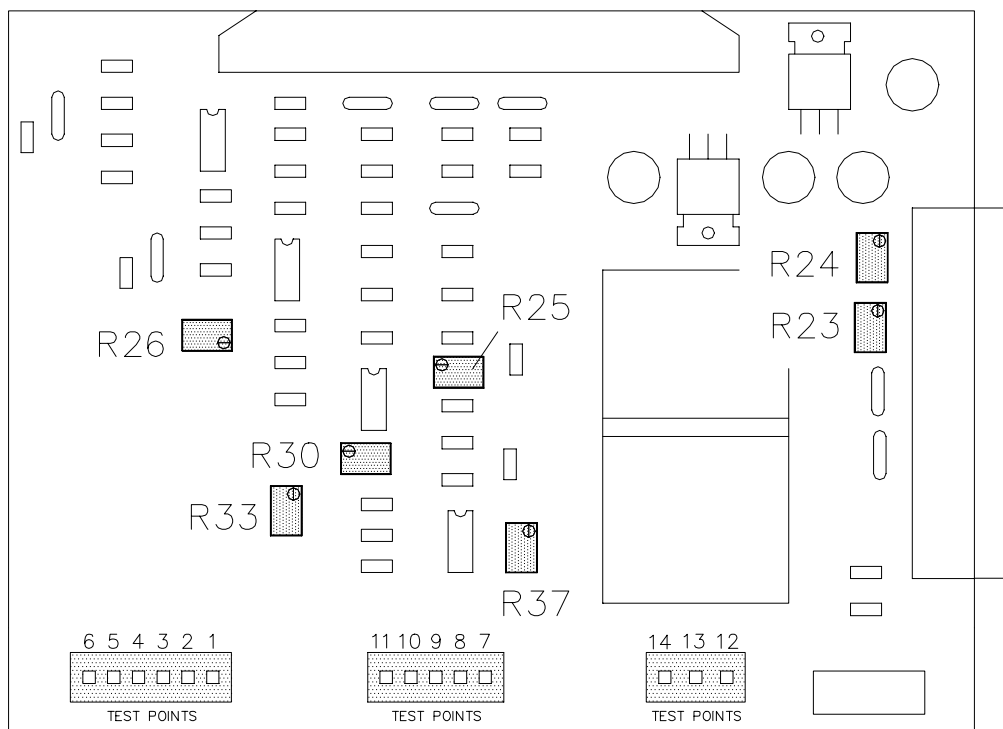

Figure 5-19 System Status Monitor Analog Interface Board
3. Connect the DVM between test points TP8(+) and TP14(GND) of the Analog Interface Board (Figure 5-19) inside the SSM chassis.
2. Connect the DVM between test points TP8(+) and TP14(GND) on the SSM Analog Interface Board (see Figure 5-19).